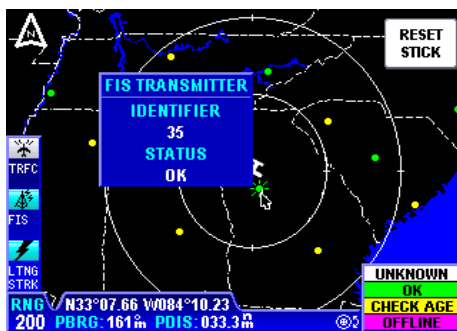

Figure 2-52
3. To view a specific FIS Network station move the joystick in the desired direction and place the pointer on the desired station icon (see Figure 2-52). A box will pop up containing the **FIS TRANSMITTER IDENTIFIER** and **STATUS**.